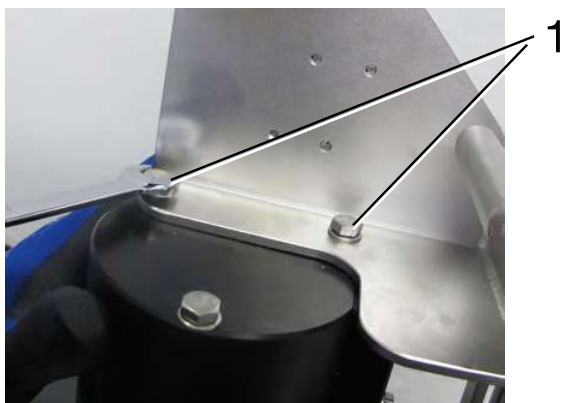

Fig. 7-27 1 Screws
- Loosen the screws (1) on the magazine mount using the open-ended spanner (Fig. 7-27).